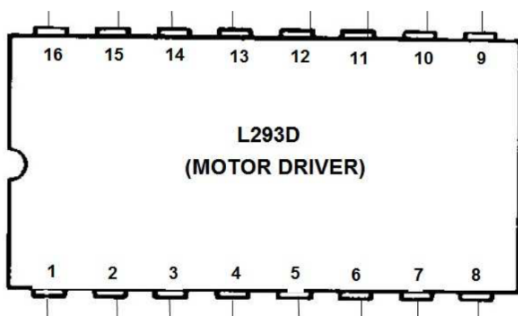

Fig. 1.6
- 1.5 Plug the L293D motor driver IC in Fig 1.6 on the breadboard.